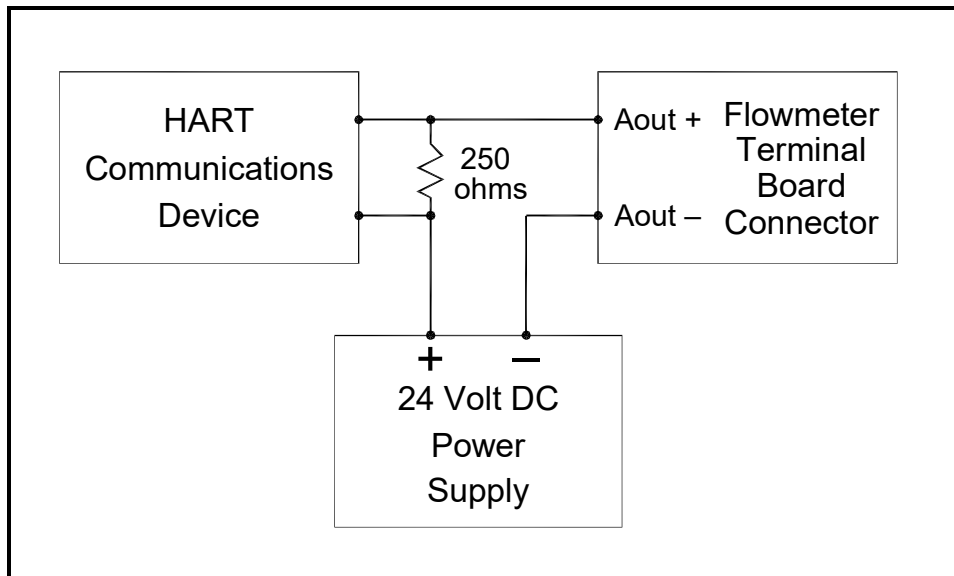

Figure 38: HART Wiring (Ext. Supply/Passive Mode)
1. Interconnect the HART interface and the HART device as shown in Figure 38 below.